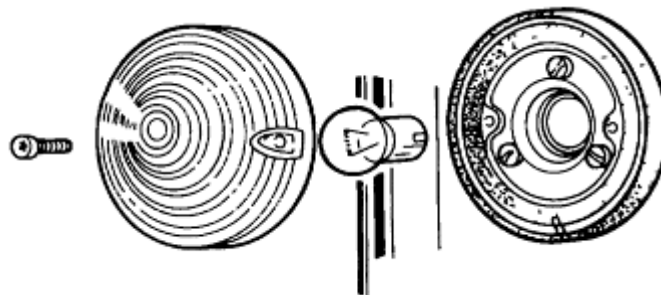

Figure 150 Park Light Exploded View
- a. Remove the two screws securing the lens (Figure 150).